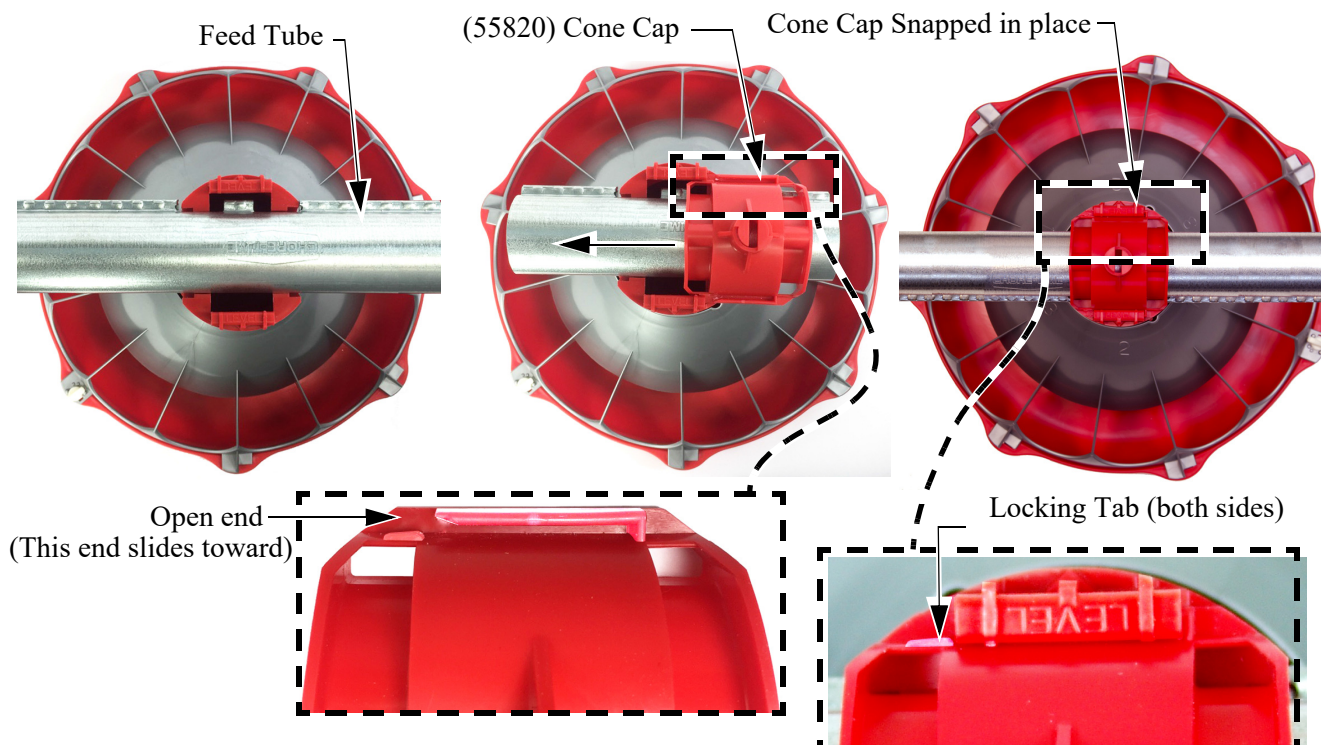

Figure 23. Cone Cap
3. Install a Feed Cone Cap as shown in **Figure 23**.